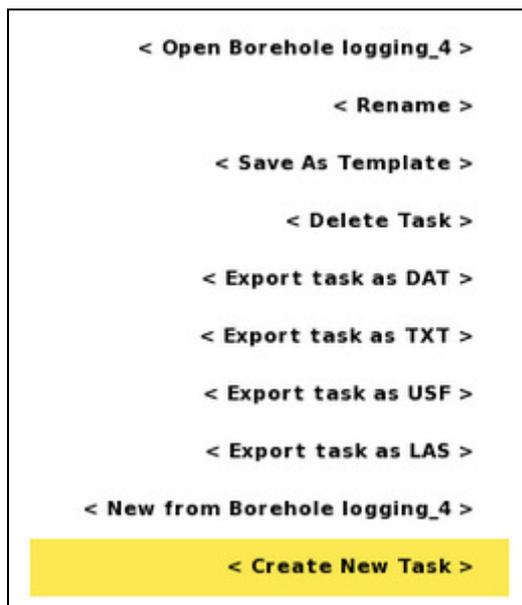

Figure 23 Task option menu with the Create New Task item highlighted
– Press <Options> and the option menu of Figure 23 will be shown